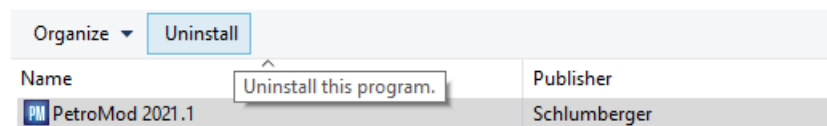

Fig. 4-8 Add or Remove Programs dialog in Windows
- 3 Scroll through the list of installed programs and select **PetroMod 2021.1** (Fig. 4-8).